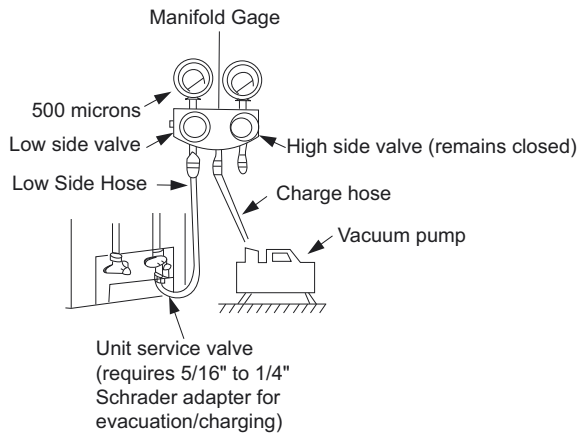

Fig. 8 – Manifold
3. Fully open the low side of manifold gage. (See Fig. 8)